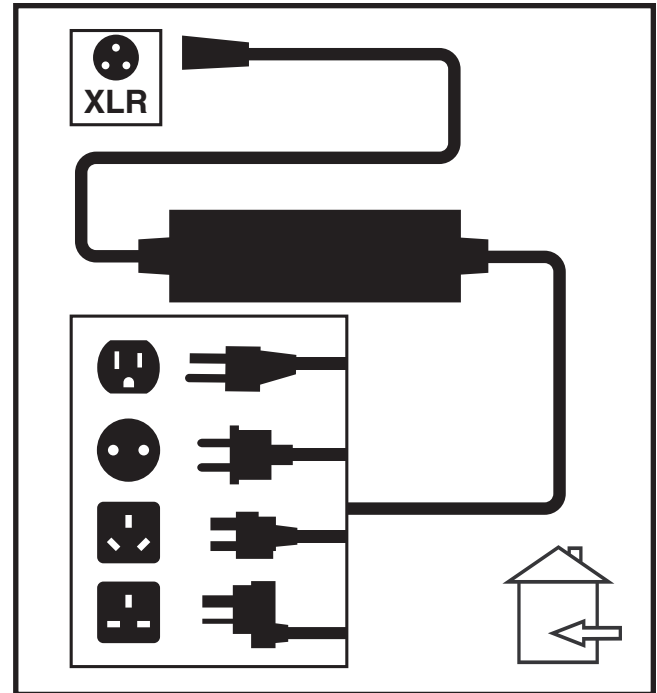

Figure 18. Battery Charging
3. Plug the off-board charger into the off-board charger/programming socket on the controller. **See figure 18.**